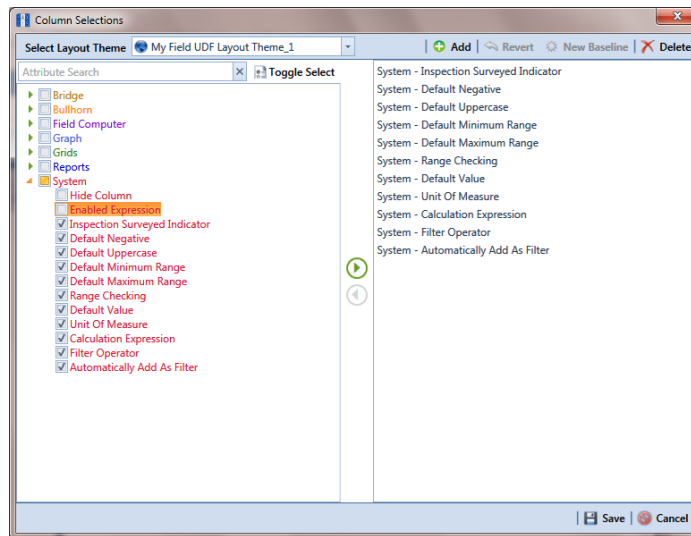

Figure 3-32. Column Selections
- 8 Choose which fields to include in the layout theme. Select a field in the left pane and then click the top arrow button  to move the field to the right pane. Repeat this step as needed (Figure 3-32, page 74).
- a Click  **Customize** to open the *Column Selections* dialog box (Figure 3-32, page 74).